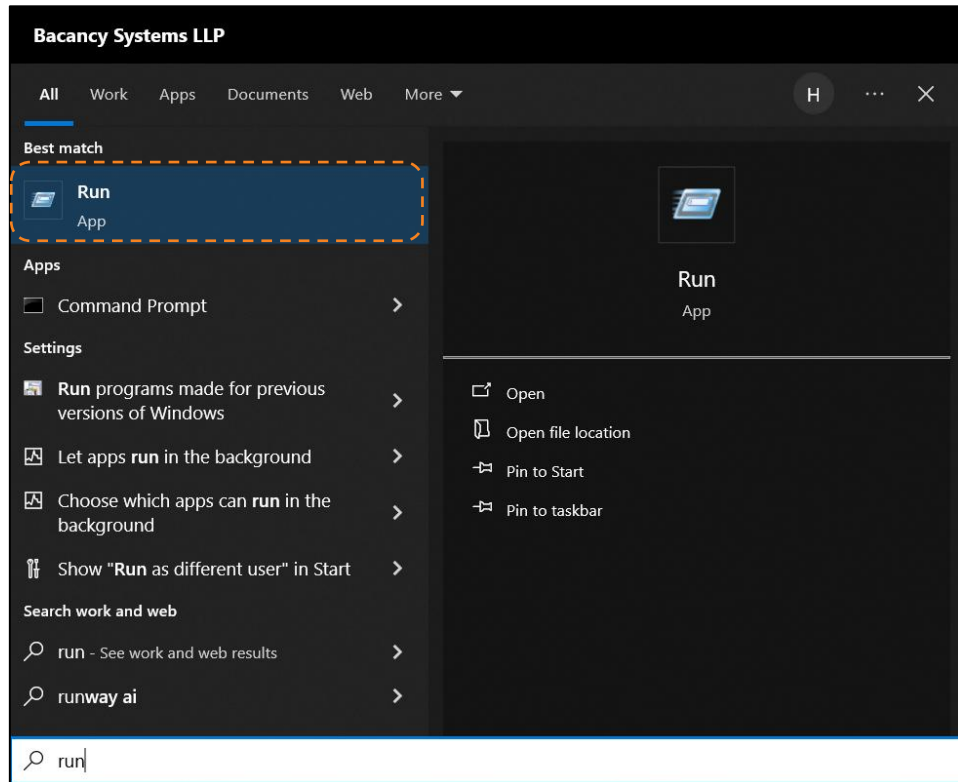

Figure 281 Open the run application
- Step 2.** Navigate to the “start menu”, then search for the “run” application. Open it. Or simply press the “**Windows** + R” keys using the keyboard. (Figure 281)